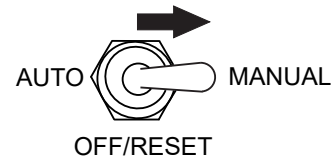

Figure 47. Auto Start/Stop Switch (Manual Position)
2. To start the engine, place the **Auto Start/Stop switch** in the **MANUAL** position (Figure 47).